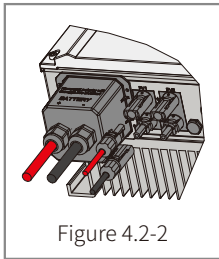

Figure 4.2-2
- **PV Input Connection:** Confirm the connection between ES and PV panels: polarities (+/-) are not reversed, refer to figure 4.2-2.